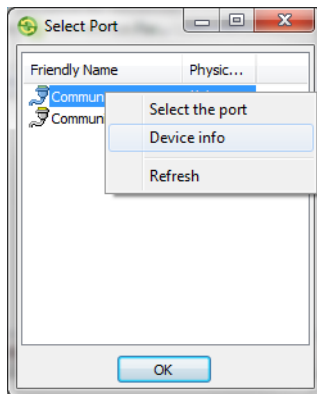

Figure 8: Select Port Dialog Box and Pop-up Menu
4. On the **Select Port** dialog box (Figure 8), highlight the port, click and hold, or right-click, and click **Select the port**.
You can also select **Device Info** from the **Port Name** pop-up menu (Figure 8) to view information about the selected port.
4. On the **Select Device** dialog box (Figure 8), highlight the Bluetooth device, click and hold it, or right-click and select **Select the port** or get the device information on that port from the pop-up menu.
You can also, select **Device Info** from the **Port Name** pop-up menu (Figure 8) to view information about the selected port.